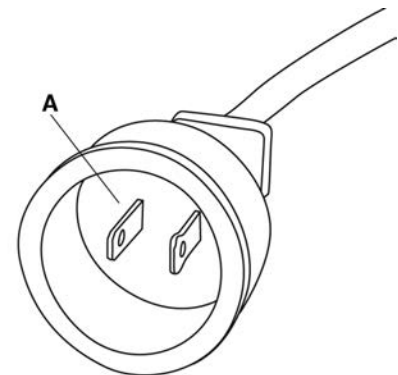

FIGURE 18
2. Note that the snow thrower has a polarized male plug (A) Fig. 18, with one prong in the socket slightly longer and wider than the other. The extension cord female end should be likewise polarized, so that the extension cord fits snugly into the socket.